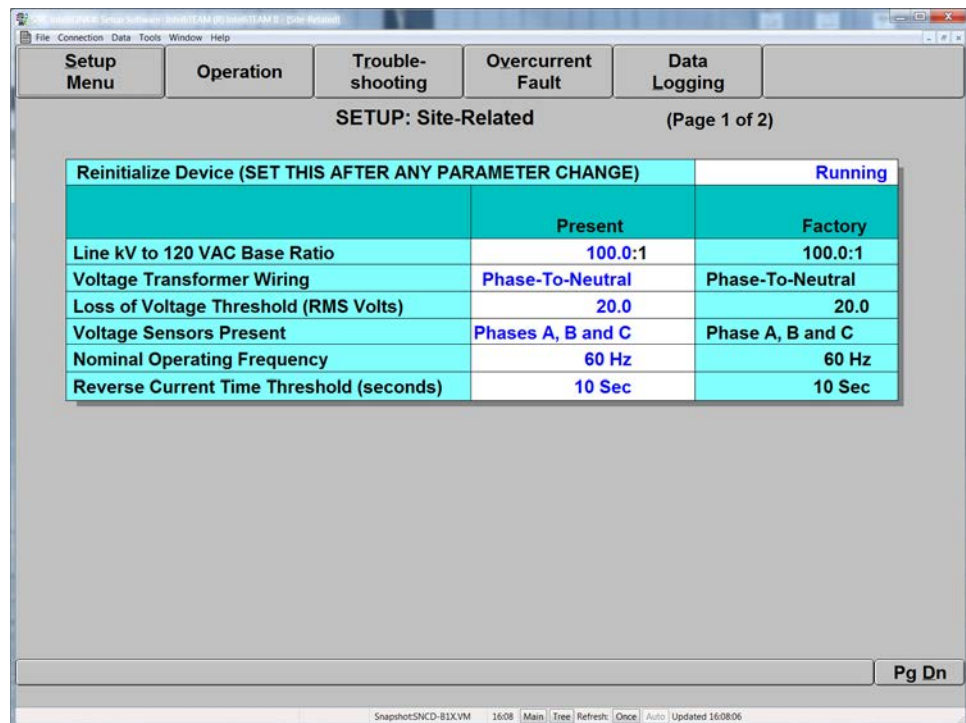

Figure 7. The *Setup>Site-Related* screen page 1, for a 5801 control.
STEP 5. At the *Setup Menu* screen, click on the **Site-Related** button to open the *Setup>Site-Related* screen. See Figure 7. Enter the correct values for this switch control.